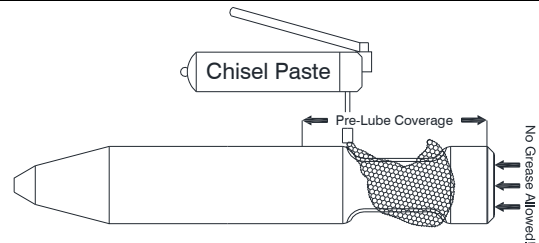

Fig. 10-6 Pre-Lube the Tool Shank
- Pre-lubricate the breaker tool before inserting into front head. (Fig. 10-6). This applies to new breaker tools and tools that have been wiped clean for inspection.